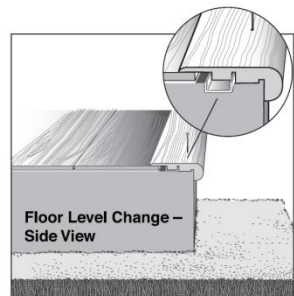

Fig. 29
8. Snap the step nose into the track and anchor the step nose with finish nails (**Fig. 29**).